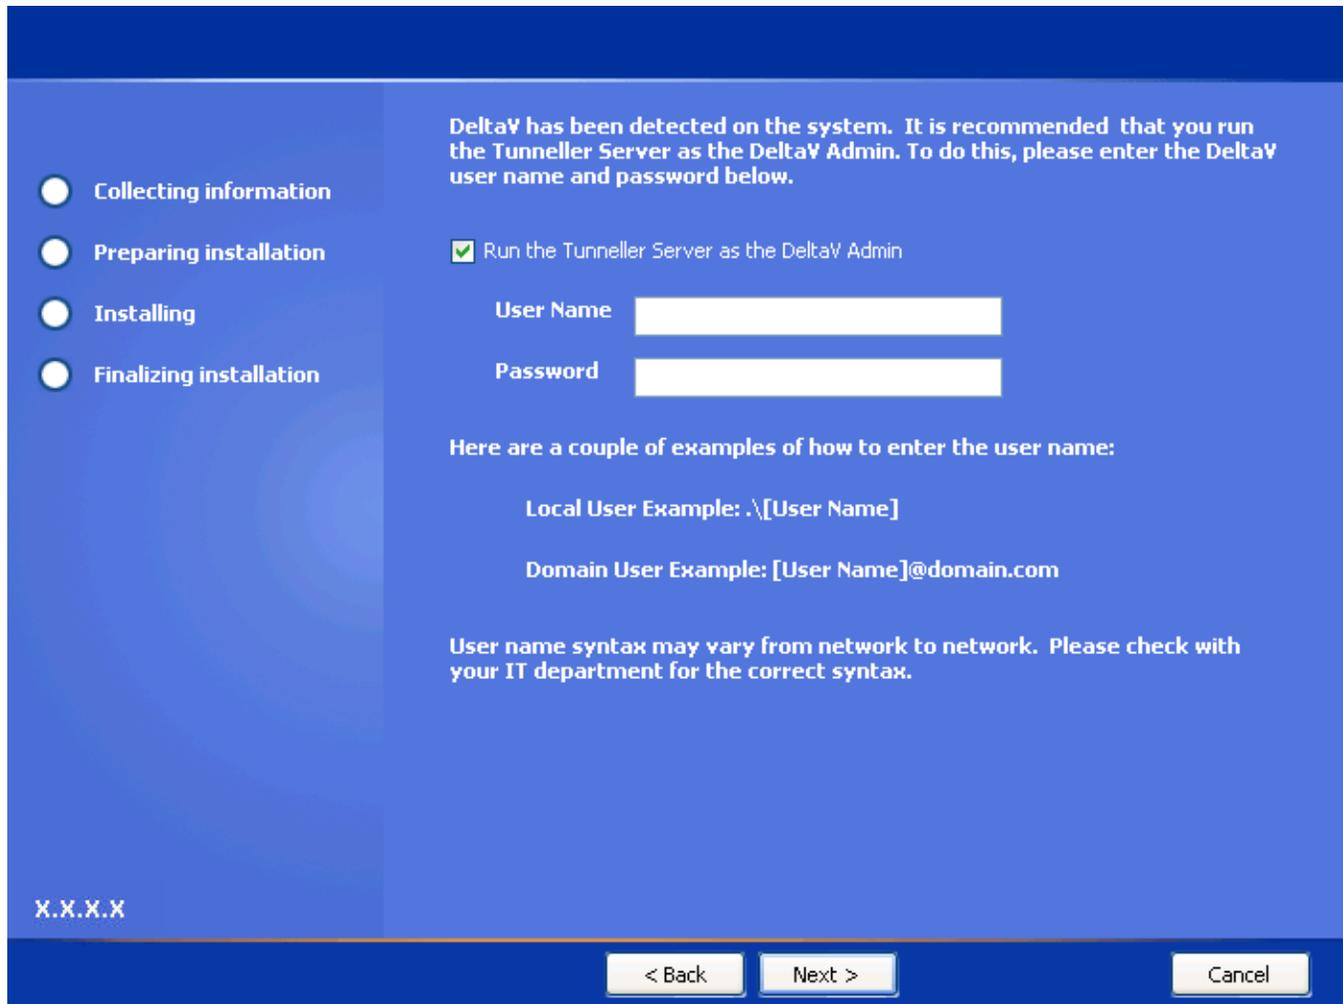

Figure 28 - DeltaV Admin Screen
16. If DeltaV OPC Server is installed, a **DeltaV Admin** screen (Figure 28) appears. Otherwise, ignore this step and the next and go to step 20.